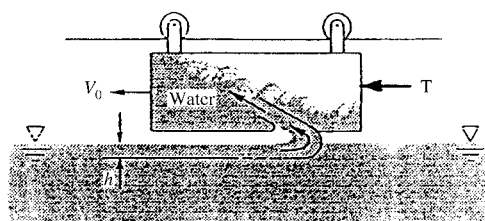

Fig. P3.107
**3.107** The cart in Fig. P3.107 moves at constant velocity  $V_o = 12$  m/s and takes on water with a scoop 80 cm wide which dips  $h = 2.5$  cm into a pond. Neglect air drag and wheel friction. Estimate the force required to keep the cart moving.